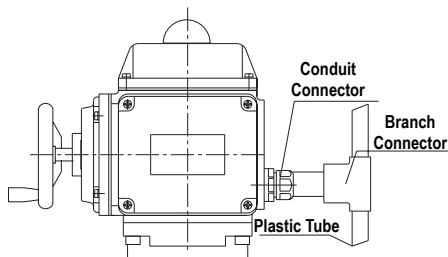

Figure 1.1
- Refer to Figure 1.1 and 1.2 when connecting conduit to Series 1000-X actuators.